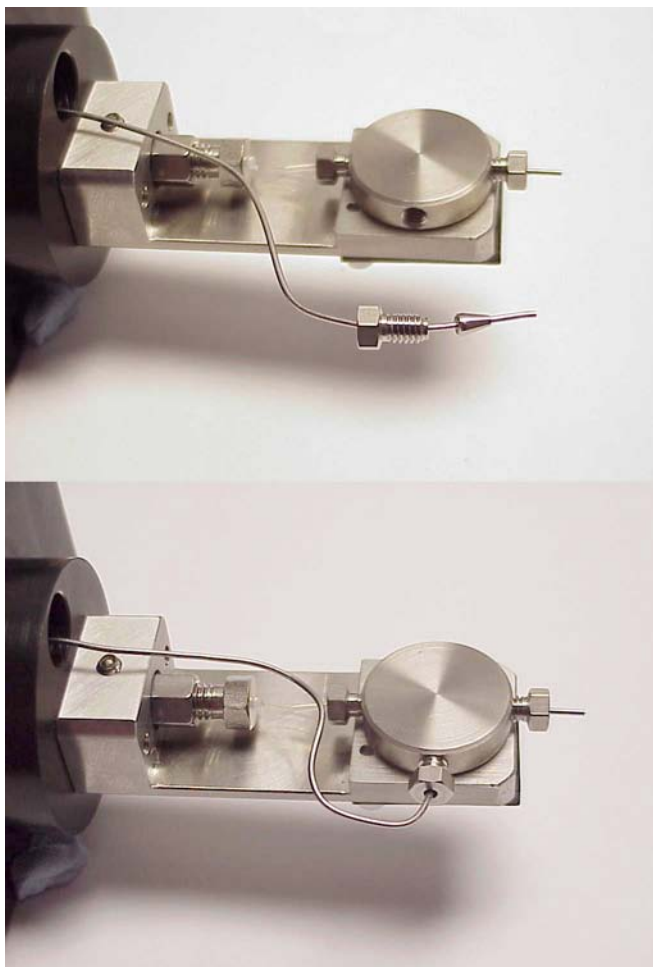

Figure 6-20 Bending the Tube
- d. Bend the tube back so that it runs neatly down the centre of the probe taking care not to kink it (Figure 6-20).